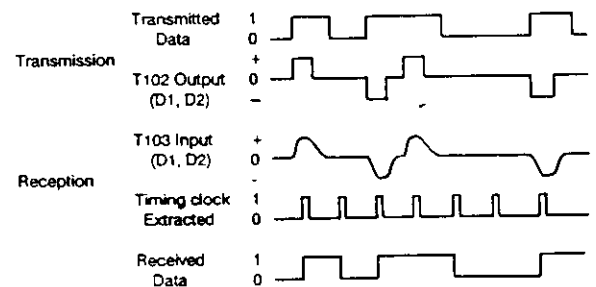

FIGURE 6-60 DATA TRANSMISSION SIGNAL
transformer T102 - T802. Received bipolar pulse from extensions at these transformers is applied to HIC102 - HIC802 to convert back to unipolar pulse (RD) and held there waiting for the CPU to read it. The CPU reads the RD through data bus with addressing and control signalling and resets the latch for the next input. The Bipolar signal and corresponding unipolar signal is shown in Figure 6-60.